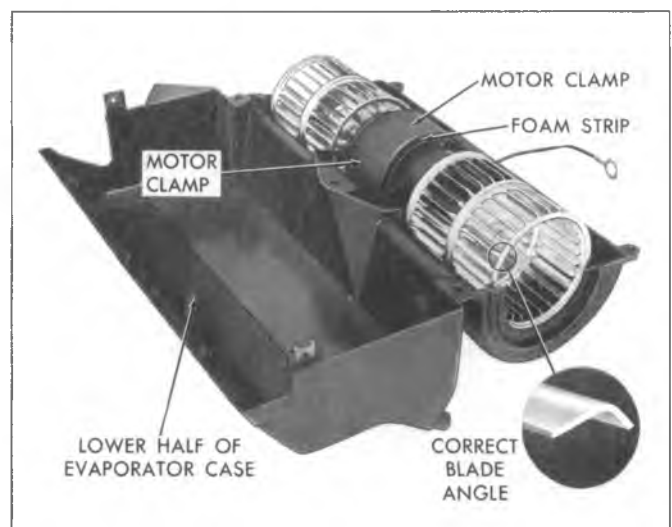

Fig. 57—Blower Motor Installation
10. **Blower Motor and Wheels (Fig. 57)**—Disconnect the blower ground wire. Remove the lower to upper case screws and separate the case halves. Remove the motor clamp screw and remove the clamp. Loosen the blower wheel set screws and remove the wheels from the motor shaft.
1. **Blower Motor and Wheels**—Install the blower wheels onto the motor shaft as shown in Figure 57. Install motor and wheels into the lower half of case, placing the foam rubber mounting strip around the motor.